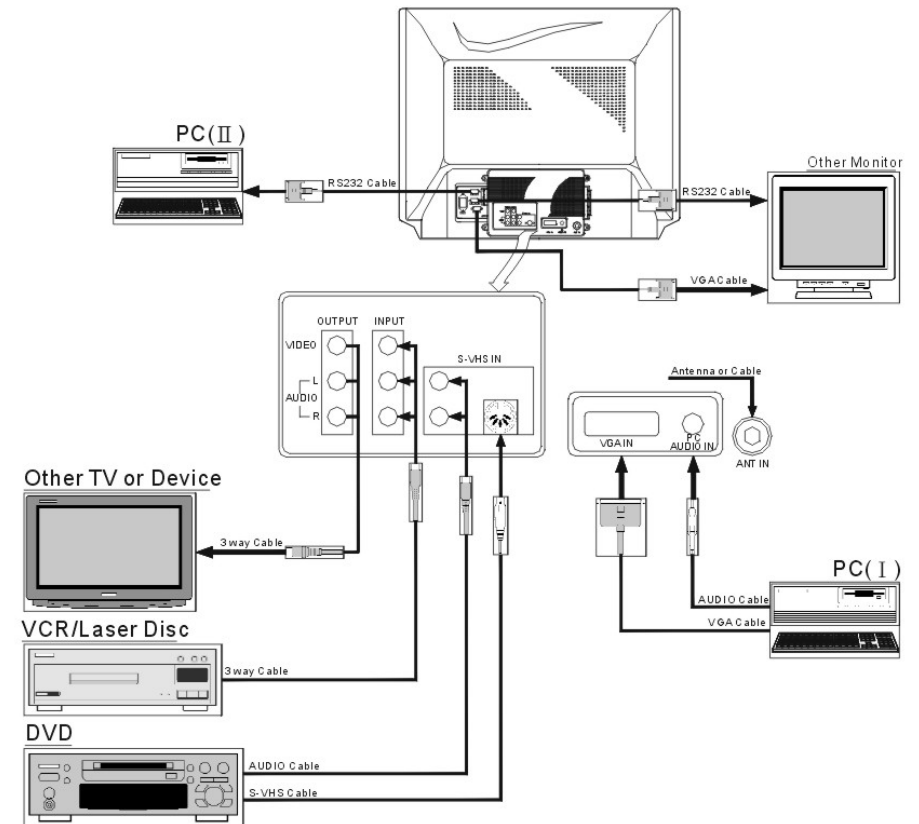

FIGURE 2 : DM-XX52KF CONNECT WITH CT-1871 VISION CONVERTER
- The following descriptions are based on Monitor connected with video converter ready. **[See Figure 2 ~ 3]**